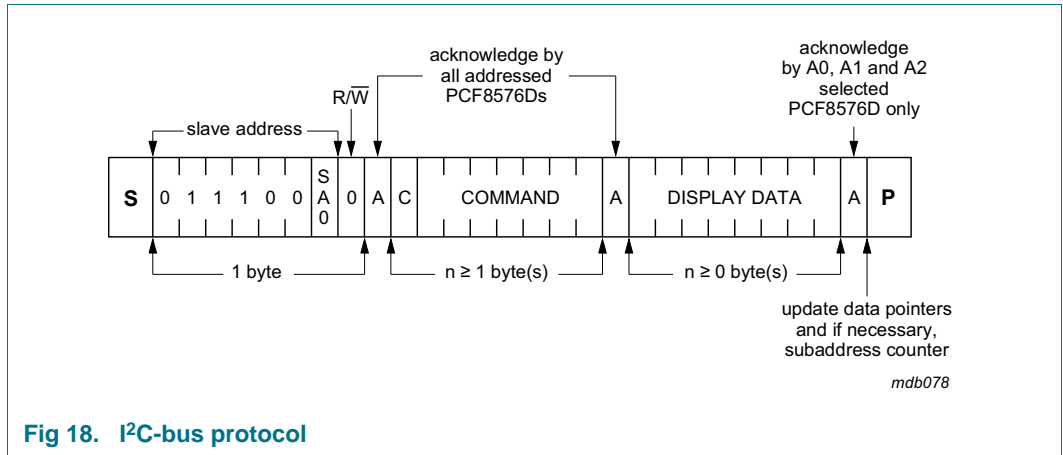

Fig 18. I2C-bus protocol
The I²C-bus protocol is shown in Figure 18. The sequence is initiated with a START condition (S) from the I²C-bus master which is followed by one of two possible PCF8576D slave addresses available. All PCF8576Ds whose SA0 inputs correspond to bit 0 of the slave address respond by asserting an acknowledge in parallel. This I²C-bus transfer is ignored by all PCF8576Ds whose SA0 inputs are set to the alternative level.